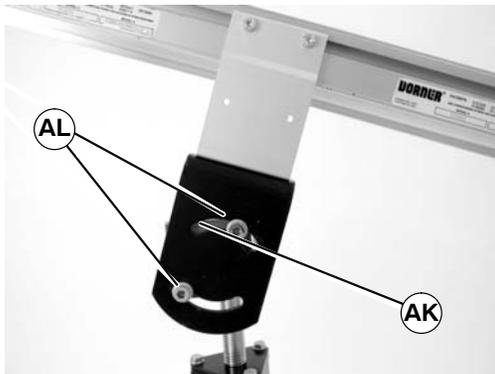

Figure 24
NOTE: To rotate stand, screws (AL of Figure 24) may need to be re-located to other holes in the stand top end plate (AK).
1. Loosen flange socket screws (AL of Figure 24) on both sides of stand.